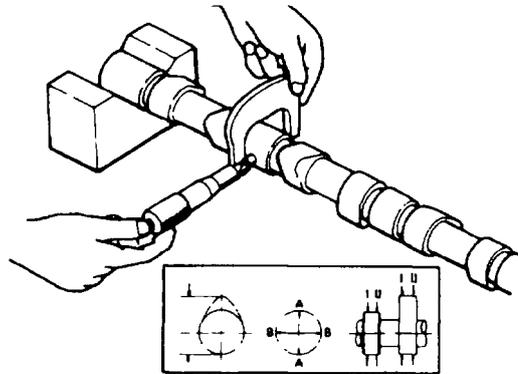

Figure 22 Measuring the Camshaft Bearing Journals
- f. Position the camshaft in V-blocks, then with a micrometer, measure the diameter of the camshaft bearing journals (Figure 22). The standard diameter is 55.60 to 55.97 mm (2.189 to 2.2035 in). Position a dial indicator on the centre bearing and check the camshaft run-out. If the run-out exceeds 0.1 mm (0.0039 in) or journal wear is below the limit, replace the camshaft.